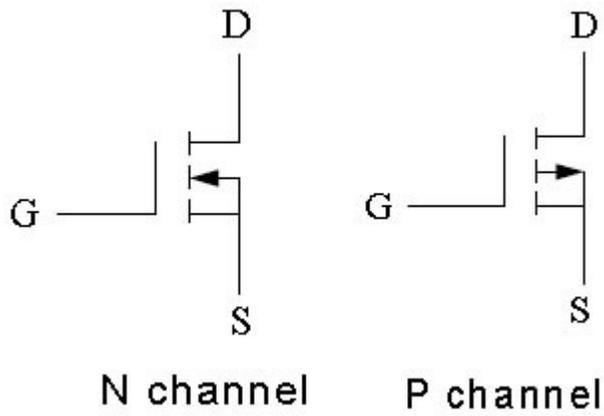

Figure 2
MOSFET as shown in figure 2 is Metal-Oxide-Semiconductor-Field effect-Transistor. This works in enhancement and depletion modes. The MOSFET has much higher input impedance than FET. It is a four terminals device having source(S), gate (G), drain (D) and substrate or body (B).The channel (N-N) of N channel MOSFET is made of heavily doped N type semiconductor ( $N^+$ ) splitted by P type semiconductor as substrate (body). Two terminal for source and drain are made on two end of channel. There is insulating thin layer of silicon di oxide ( $SiO_2$ ) between gate and channel. Similary p channel MOSFET is made. The symbolic diagram of MOSFET is presented in figure 2.
1. Make connection as shown in figure 2.